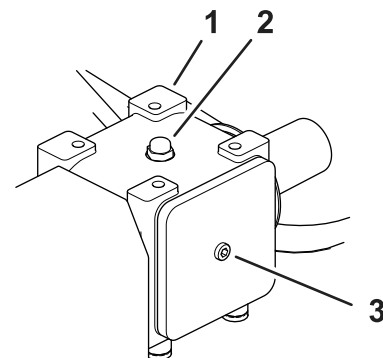

Figure 30
1. Clean debris from the fill plug to avoid contamination (Figure 30).
5. Install the socket-head bolt on the rear of the gearbox (Figure 30).
1. Clean debris from the fill plug and the drain plug to avoid contamination (Figure 30).
7. Install the socket-head bolt on the rear of the gearbox (Figure 30).